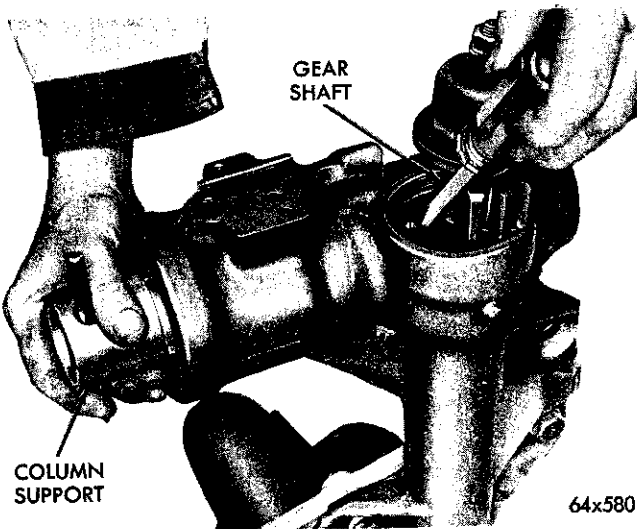

Fig. 14—Removing the Power Train
(9) On Chrysler models firmly install a suitable drift through the hole in the jacket support to engage the groove in the worm shaft, thereby locking these two parts together (Fig. 14).